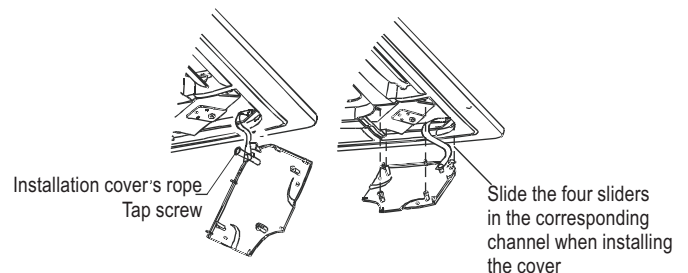

Fig.1-14
- Fasten the rope of installation cover on the bolt of the installation cover.(Refer to Fig.1-14-left)
- Press the installation cover into the panel slightly. (Refer to Fig.1-14-right)